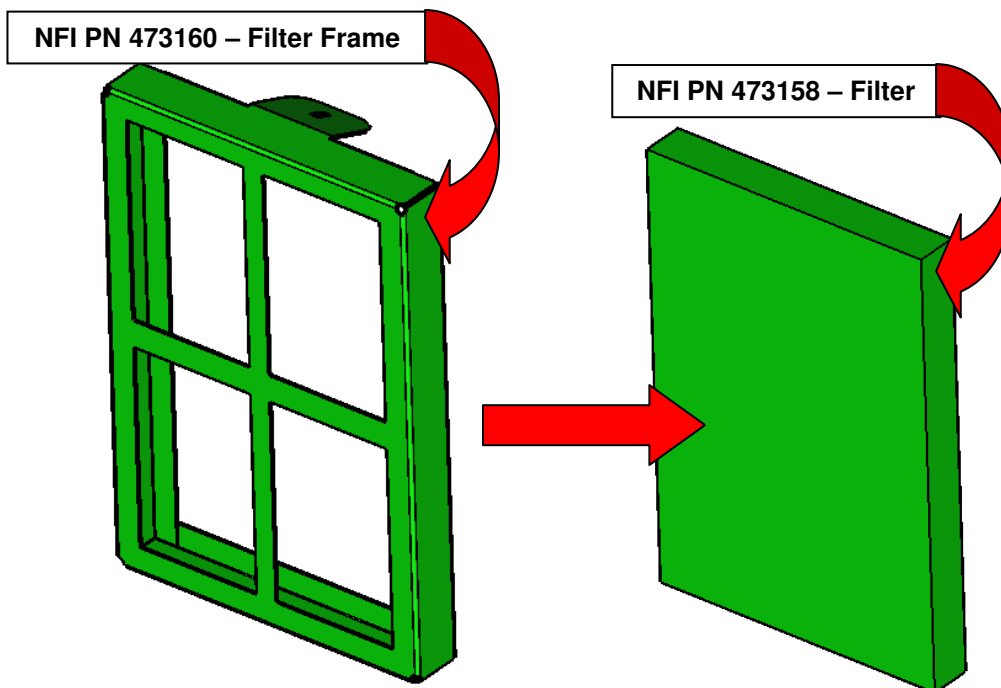

Figure 2 – Air Intake Filter
2. Remove the filter (NF P/N 473158) by pushing the part out of the filter frame (NF P/N 473160). Replace with a new filter by pushing the part back into the filter frame. Reverse step 1 for reinstallation. See Figure 2.